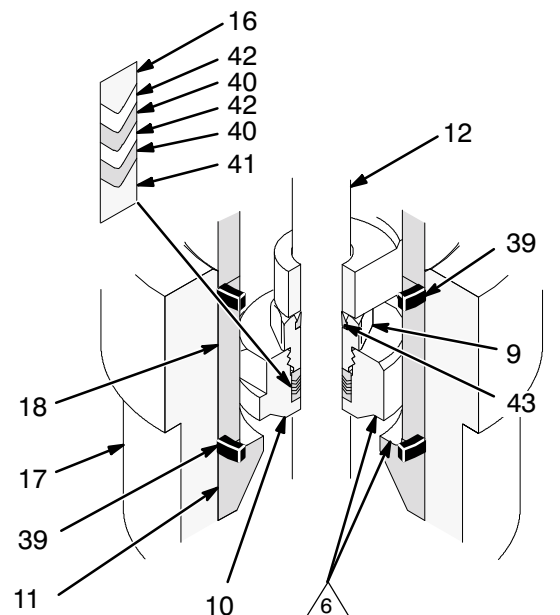

FIG. 10
When disassembling the pump, lay out all the removed parts in sequence, to ease reassembly. Clean all parts with a compatible solvent and inspect them for wear or damage. Refer to Fig. 10.
10. Pull the seal (39) and seat (11) out the top of the intake housing (17). See Fig. 10. If the seat is difficult to remove, turn the housing upside down and drive the seat out using a hammer and brass rod.
11. Examine the mating surfaces of the seat (11) and the intake valve body (10) for damage.
12. Slide the rod guide (18) off the priming piston rod (12). Unscrew the priming piston rod from the piston (6). Run a finger over the surface of the rod to check for scratches or scoring.
**NOTE:** Service Tool 109508 is available as an accessory. The tool fits over the top of the displacement rod (1), making it easier to apply a 24 inch adjustable wrench or 3/4 in. drive socket when disconnecting the rod from the piston (6).
13. Place the flats of the piston (6) in a vise. Unscrew the displacement rod (1) from the piston (6). Lift the piston seat and guide assembly off the piston. Inspect the mating surfaces of the piston (6) and piston seat (8) for damage. See the Detail in Fig. 10.
14. Remove the displacement rod (1) from the vise and inspect it for scratches and scoring by running a finger over the surface.
16. Take the intake valve assembly removed in step 9 and unscrew the packing nut (9) from the valve body (10). Using an o-ring pick, remove the glands (16, 41) and v-packings (40 and 42) from the valve body. Remove the seal (43) from the packing nut. See the Detail in Fig. 10.
**NOTE:** The seal (43) is press-fit in the packing nut and may require cutting to ease removal.